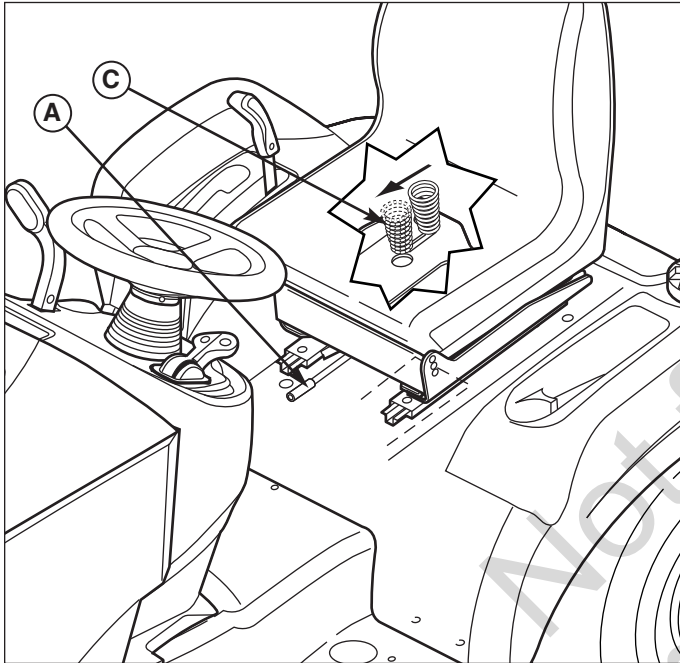

Figure 9. Seat Adjustment
The seat can also be adjusted forward and back. Move the lever (A, Figure 9), position the seat as desired, and release the lever to lock the seat into position.
The seat springs (C, Figure 9) can be adjusted to provide a softer or firmer ride. Tilt the seat forward and slide the spring assembly (C) forward for a softer ride, and back for a firmer ride.